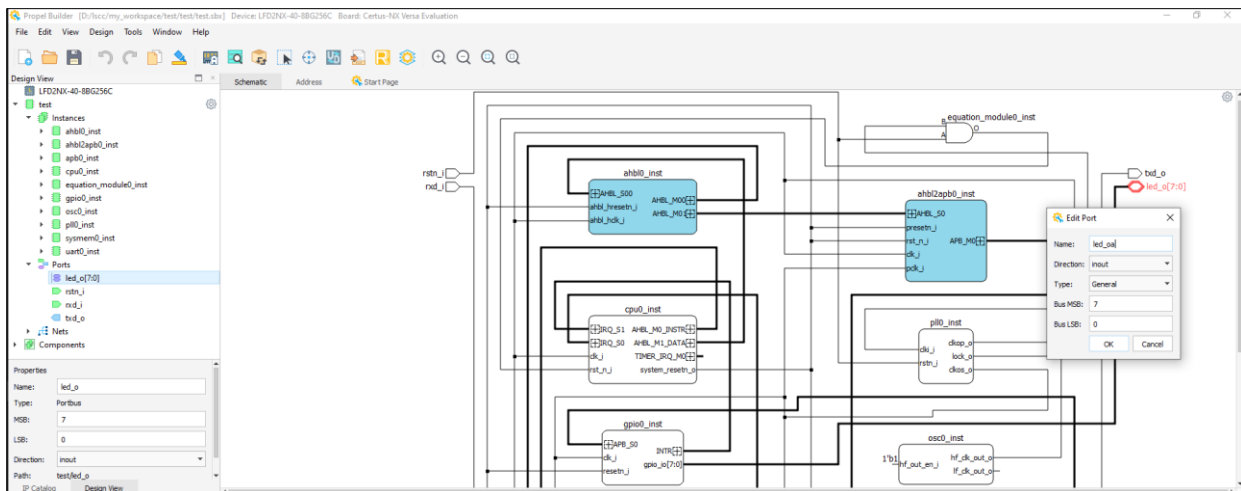

Figure 2.105. Port Edit Dialog
- h. (Optional) Double click on the Port/Portbus in schematic view, the port edit dialog opens (Figure 2.105).